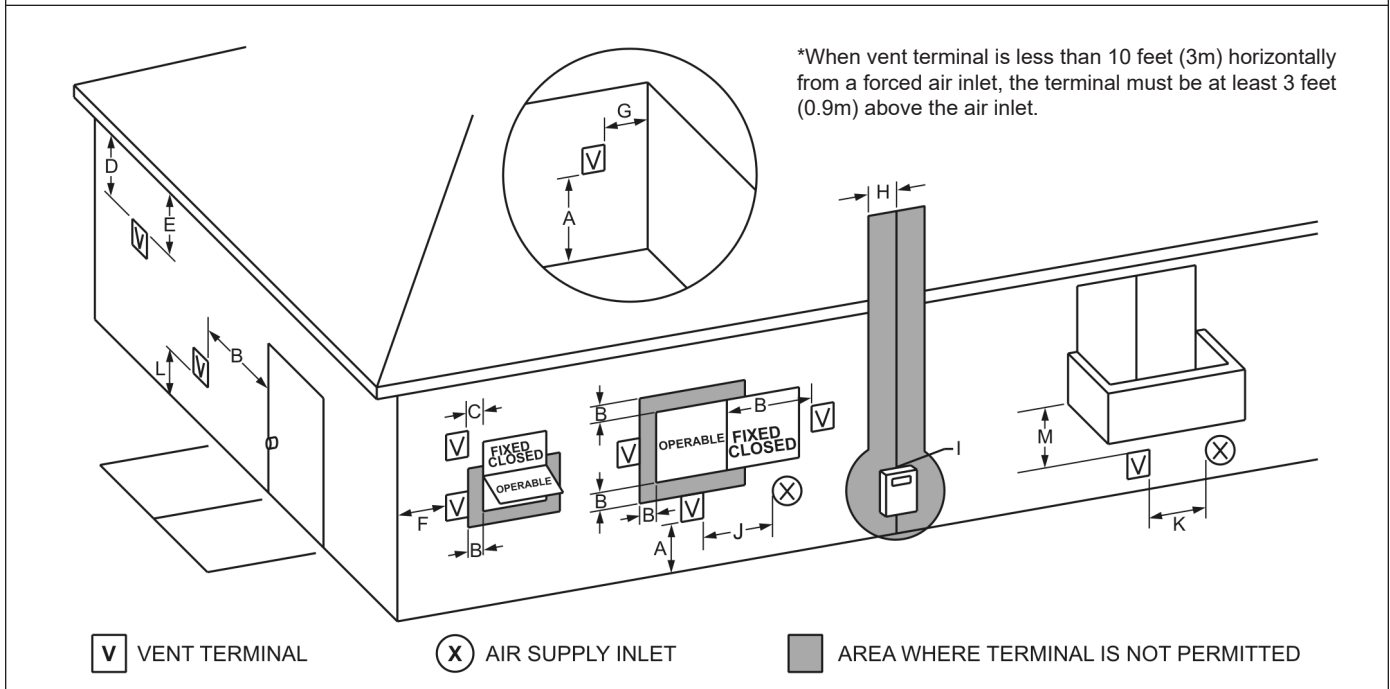

Figure 11. Combustion Air and Vent Through Side Wall.
1. **Figure 11** shows the requirements for mechanical vent terminal clearances for the U.S. and Canada.
7. If the boiler or water heater uses ducted combustion air from an intake terminal located on the same wall, see **Figure 11** for proper spacing and orientation.
The Bradford White side wall combustion air terminal, or concentric terminal (see **Table 5**), must be used when the heater takes air from a side wall. Consider the following when installing the terminal (see **Figure 11**):